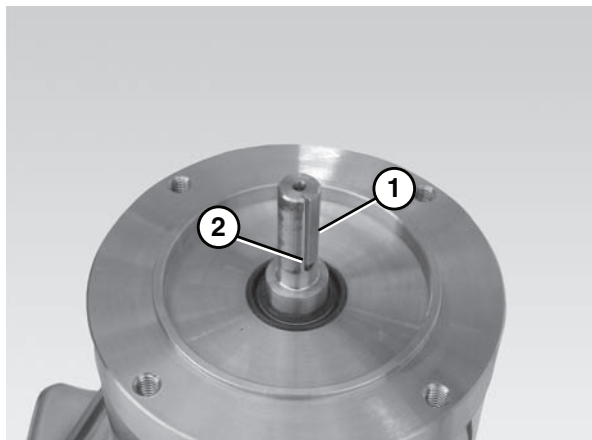

Figure 31
7. Insert the motor output shaft key (**Figure 31, item 1**) into the motor output shaft keyway (**Figure 31, item 2**).
Ensure the gearmotor output shaft key (Figure 31, item 1) is situated properly before attaching the motor to the gear reducer.